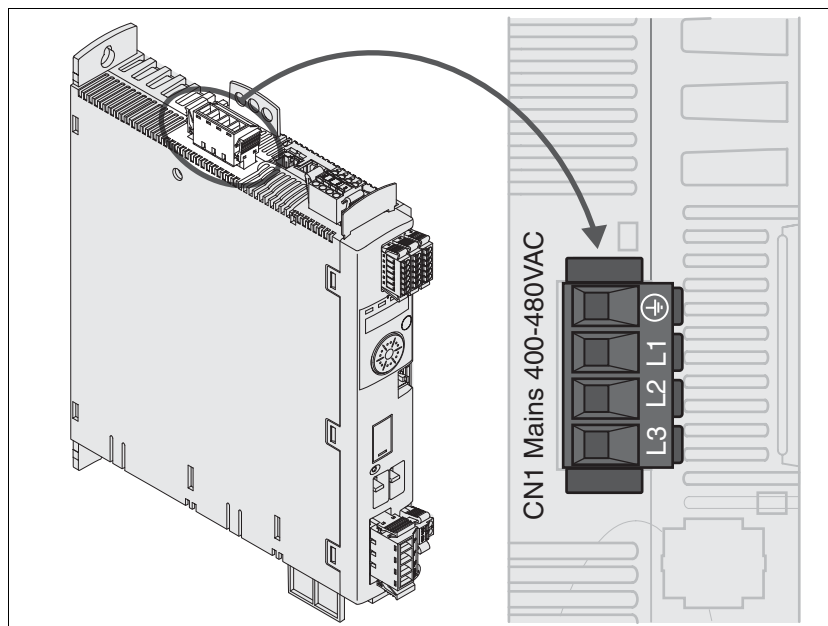

Figure 6.13 Wiring diagram power stage supply voltage for three-phase device
- Connect the mains cable (Figure 6.13). Note the tightening torque specified for the terminal screws.